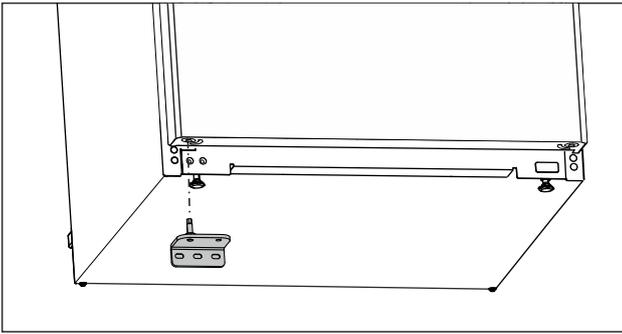

Fig. 17
- ▶ Insert the lower swap bearing block on the opposite side. (see Fig. 17)